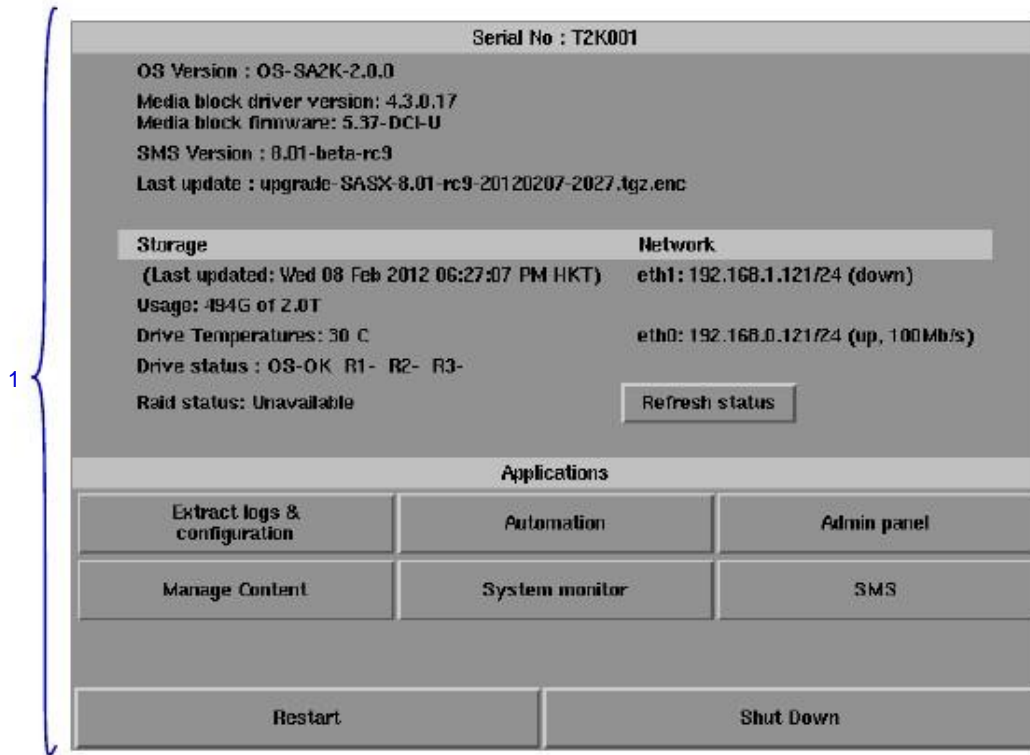

Figure 15 Control Panel menu.
- Switch **ON** the server and allow it to boot up to prompt directly to the **SMS** interface. When the SMS interface is shown, push the **ON/OFF** button once or press the **Control Panel** button and a new window for the **Control Panel** menu opens as shown in **Figure 15**. The **Control Panel** includes the **Extract Logs & configuration** buttons, the **Automation** button, **Admin panel** button, **Manage Content** button, **System monitor** button, **SMS** button, **Restart** button, **Shutdown** button and a **Refresh status** button. System information including the serial number, OS version, SMS version, network and storage information can also be seen on the Control Panel UI.